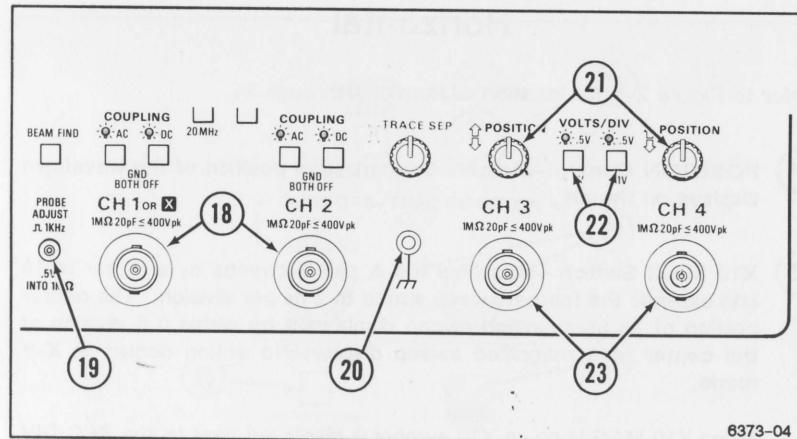

Figure 2-3. Vertical connectors and CH 3 and CH 4 controls.
Refer to Figure 2-3 for location of items 18 through 23
- ⑯ **CH 1 OR X and CH 2 Input Connectors**—Connect signals to the inputs of Channel 1 and Channel 2 vertical attenuators.